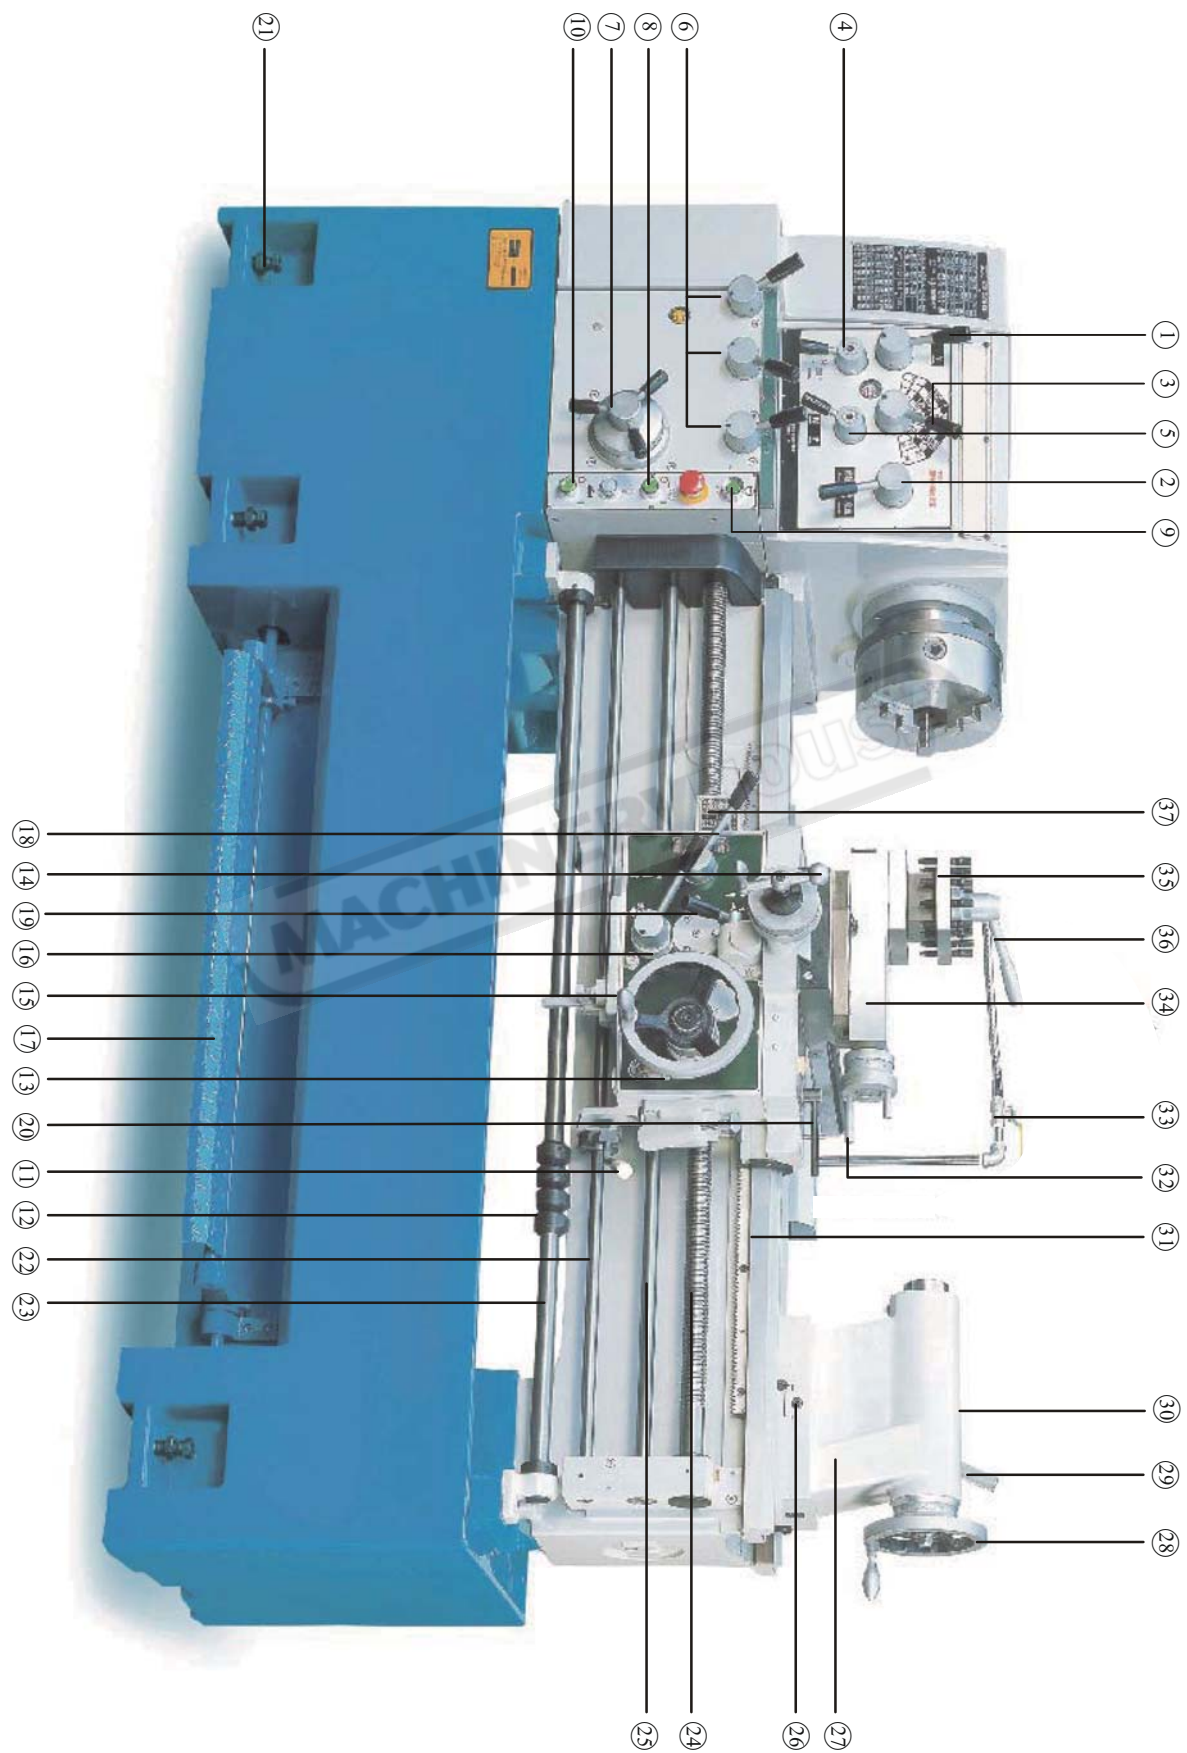

Fig. 1-1
Position the spindle speed H/L shifting lever ② to “L”, the spindle speed shifting selection lever ③ to the very left side, and forward/reverse shifting lever ④ to “N” position. Lift the spindle operation control lever (⑪ of figure 1-1), the spindle will rotate forward, press down the lever, the spindle will rotate reverse; in ‘Neutral’ position, the spindle will stop. For normal forward & reverse revolution, always operate the spindle operation control lever. For emergency stop, step on the foot brake, the spindle operation control lever should push back to ‘Neutral’ position after stepping the foot brake. Afterward, start the spindle.
Turn the coolant supply button (⑩ of figure 1-1). Adjust the adjusting valve for the required coolant flow.
Open the end cover to find the gear train transmitting from headstock to gear box, position the forward/reverse shifting lever (④ of figure 1-1) to right side, the spindle will rotate forward; to right; reverse; to Neutral, stop. Do not change the gears while turning.
With the special design, there is no need to re-arrange the back gears for threading. Please refer to the 'threading & feeding table' and handle the thread/feed selection lever (⑤ of figure 1-1), thread, feed shifting lever (⑥ of figure 1-1) and 10-step feed selection dial (⑦ of figure 1-1) accordingly.
Also select the appropriate auto feeding rate by positioning the thread, feed selection lever (⑤ of figure 1-1), thread, feed shifting lever (⑥ of figure 1-1) and 10-step feed selection dial (⑦ of figure 1-1) as indicated on the 'threading and feeding table'.